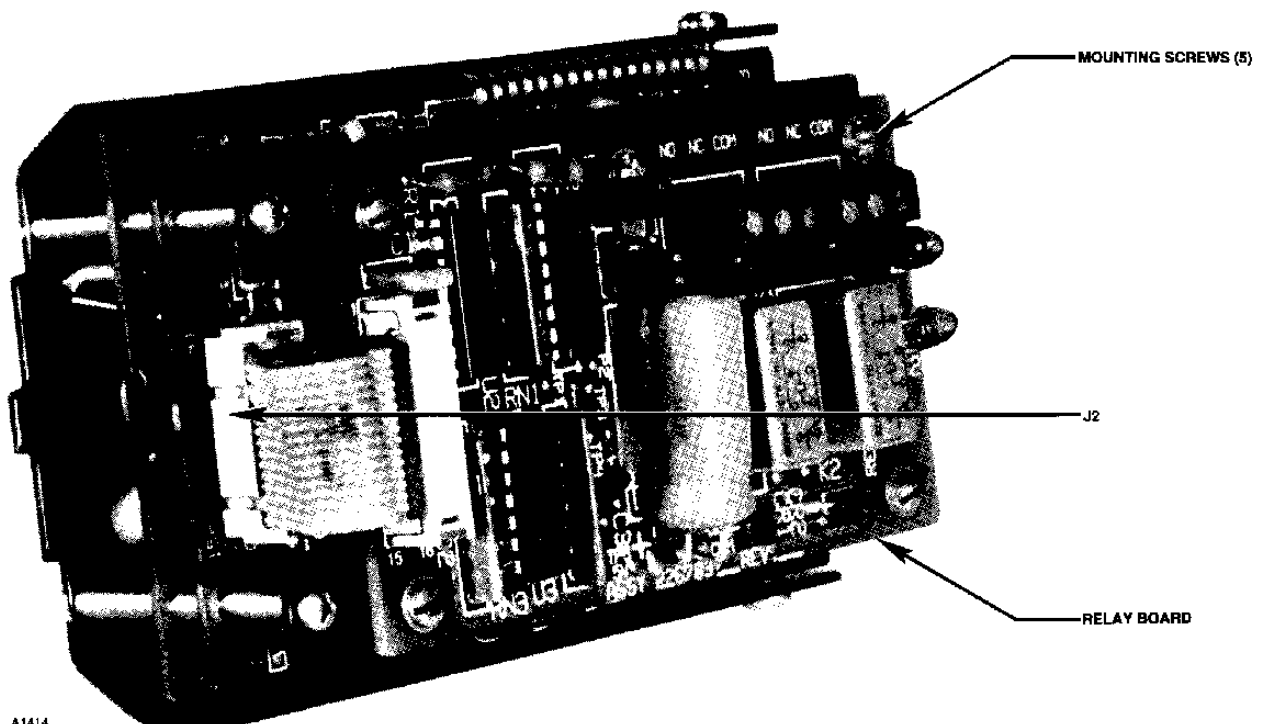

Figure 9—Optional Relay Board
4. If the optional relay board is used, plug the ribbon cable on the relay board into terminal J2 on the transmitter module. Attach the relay board to the side of the transmitter module using the screws provided. See Figure 9.